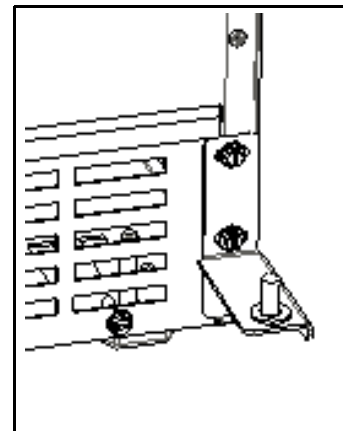

Figure 11
2. Remove top hinge from cabinet (three screws) (**Figure 11**). Hold door to keep it from falling.